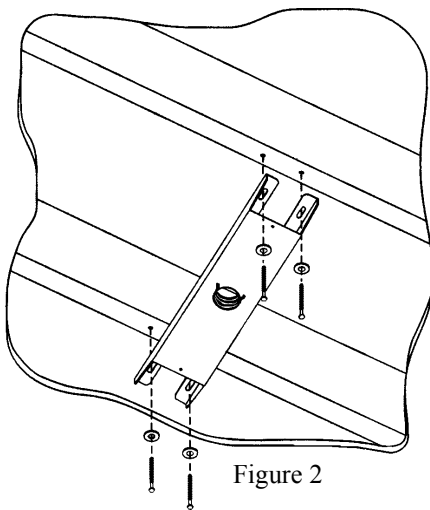

Figure 2
3. Secure the mounting plate to the ceiling joist using four washers and lag screws provided (see Figure 2). Tighten securely.